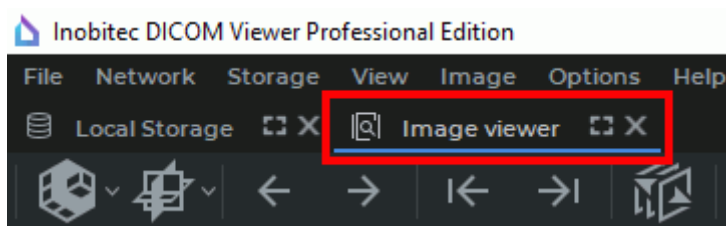

Figure 2.9: Study view tab
3. Select another study and drag one of its series to the tab with the opened study (highlighted in red in Fig. 2.9).